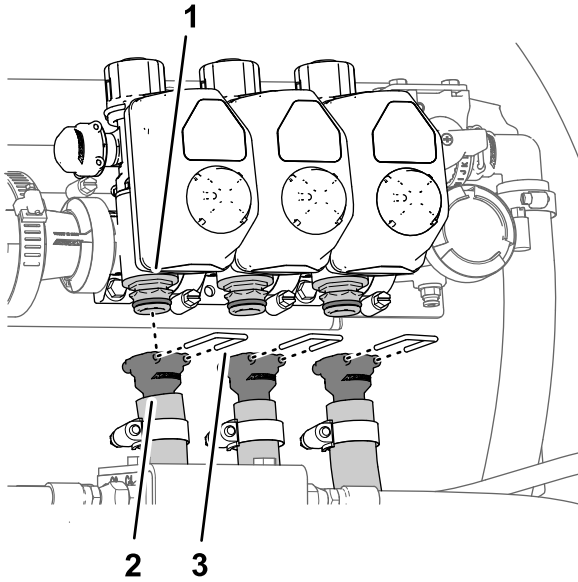

Figure 39
- Remove the retainers that secure the straight barbed fittings to the quick disconnect fittings of the left, center, and right boom-section valves (Figure 39).
7. Remove the hoses for the left, center, and right boom-section valves from the machine (Figure 39).